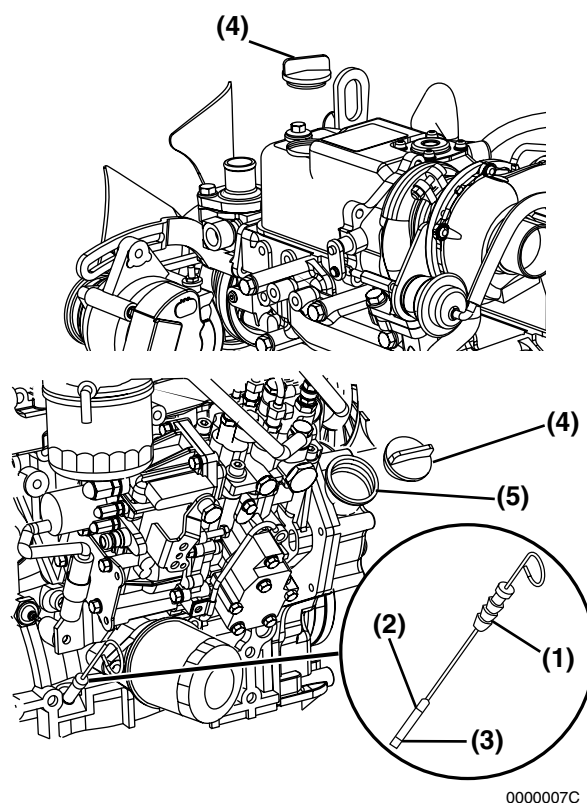

Figure 4-5
2. Remove the dipstick (**Figure 4-5, (1)**) and wipe it with clean cloth.
4. Remove the dipstick. The oil level should be between the upper (**Figure 4-5, (2)**) and lower (**Figure 4-5, (3)**) lines on the dipstick.
2. Remove the oil cap (**Figure 4-5, (4)**).
3. Add the indicated amount of engine oil at the top or the side engine oil filler port (**Figure 4-5, (5)**).
6. Reinstall the oil cap (**Figure 4-5, (4)**) and hand-tighten. Over-tightening may damage the cap.